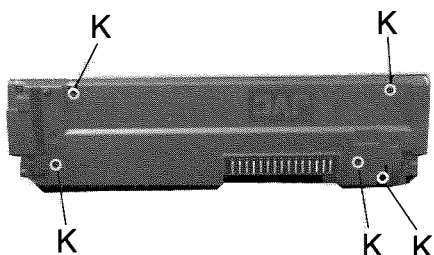

Fig 9
■ **Front panel unit (See Fig.9)**